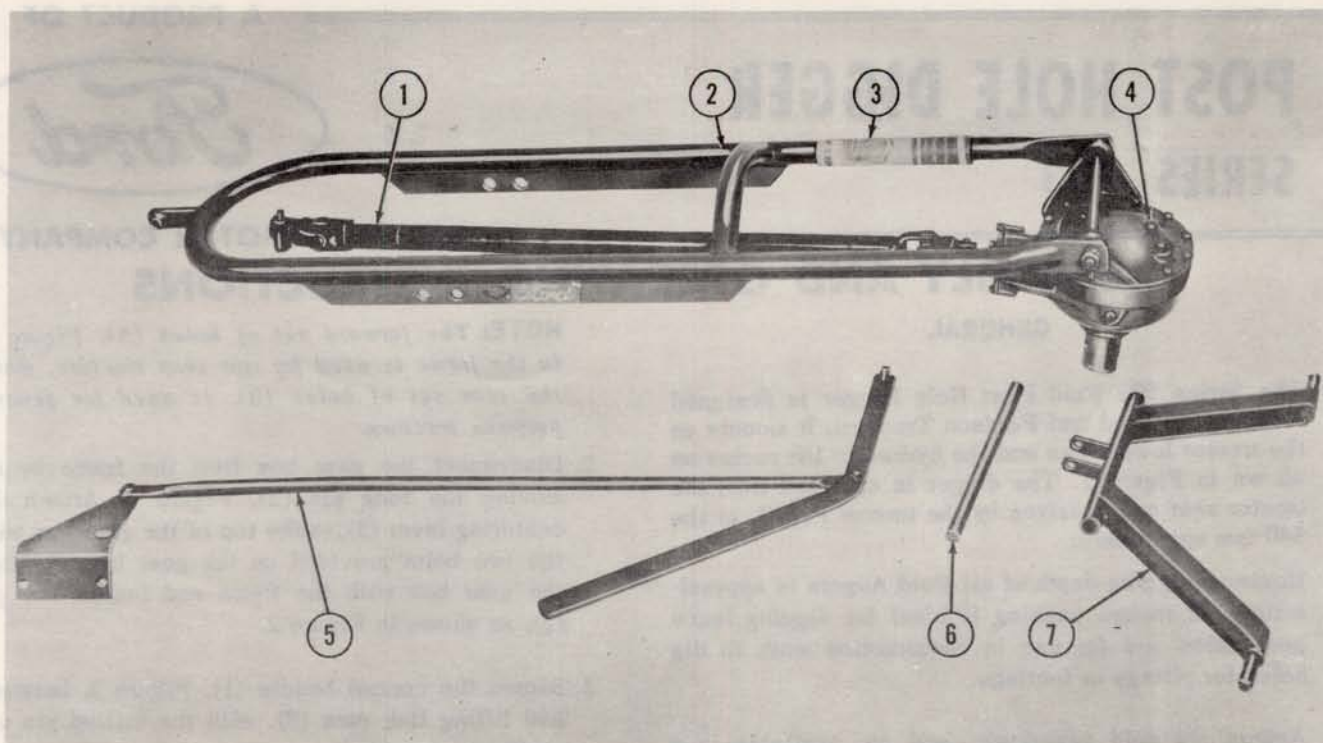
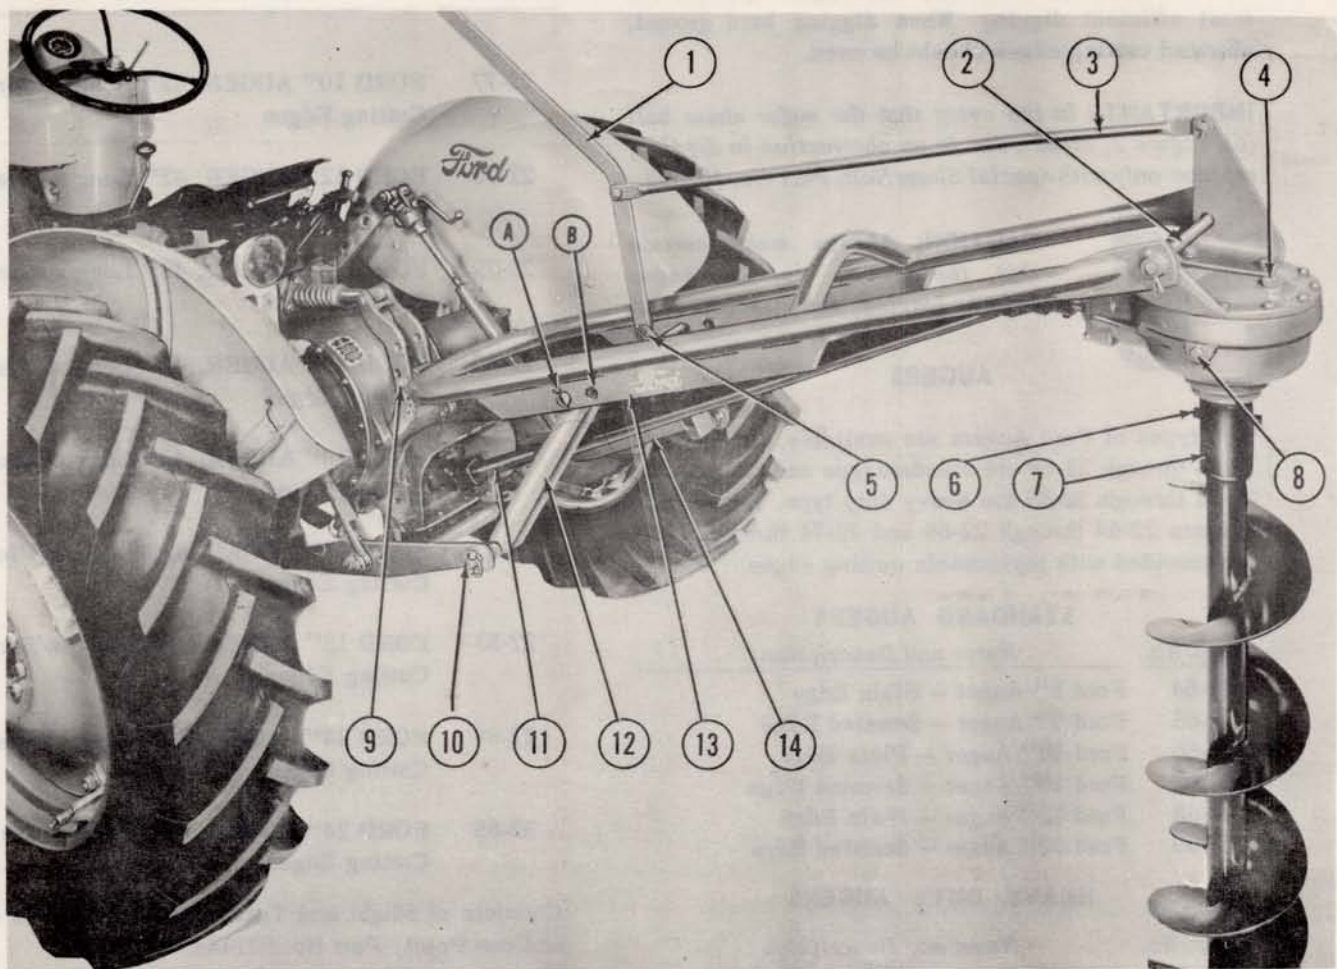

Figure 1
Figure 2
The Series 903 Ford Post Hole Digger is designed for use with Ford and Fordson Tractors. It mounts on the tractor lowerlinks and the hydraulic lift rocker as shown in Figure 2. The digger is operated from the tractor seat and is driven by the tractor P.T.O. at the 540 rpm speed only.
The Ford Post Hole Digger is shipped in one Bundle, No. 22-63. Before assembling the unit, check the parts against Figure 1 and the following list to make certain that all parts are present.
1. Secure the lifting link (12), Figure 2, to the frame with the long pin (6), Figure 1, and cotter pins. Make certain that the control handle attaching ears are slanting forward.
NOTE: The forward set of holes (A), Figure 2, in the frame is used for row crop tractors, while the rear set of holes (B), is used for general purpose tractors.
2. Disconnect the gear box from the frame by removing the long pin (2), Figure 2. Attach the centering lever (3), to the top of the gear box with the two bolts provided on the gear box. Realign the gear box with the frame and install the pin (2), as shown in Figure 2.
3. Secure the control handle (1), Figure 2, between and lifting link ears (5), with the drilled pin and cotter pin provided.
1. Attach the lifting link pins (10), Figure 2, to the tractor lower links and secure with linch pins.
2. Attach the frame ball socket assembly (9), Figure 2, to the tractor rocker assembly with the pin and linch pin provided on the tractor. The lower hole in the rocker will give the most ground clearance.
3. Fit the auger (7), Figure 2, on the drive spindle and secure with the 7/16" x 4" hex head shear bolt (6), lock washer, and nut provided.
4. Extend the universal drive shaft (11), Figure 2, and coat it with grease, then slide it back in the drive tube.
NOTE: Assemble the Ford Post Hole Digger in the same manner as outlined for Ford Tractors, with the lift link in the rear holes (B), of the frame support (13), Figure 2.
The gear box is shipped less oil and should be filled with 2 quarts of SAE 90 EP oil. To fill the gear box, remove filler plug (4), Figure 2, pour 2 quarts of
IMPORTANT: In the event that the auger shear bolt (6), Figure 2, breaks due to an obstruction in digging, replace only with special Shear Bolt, Part No. 107328.